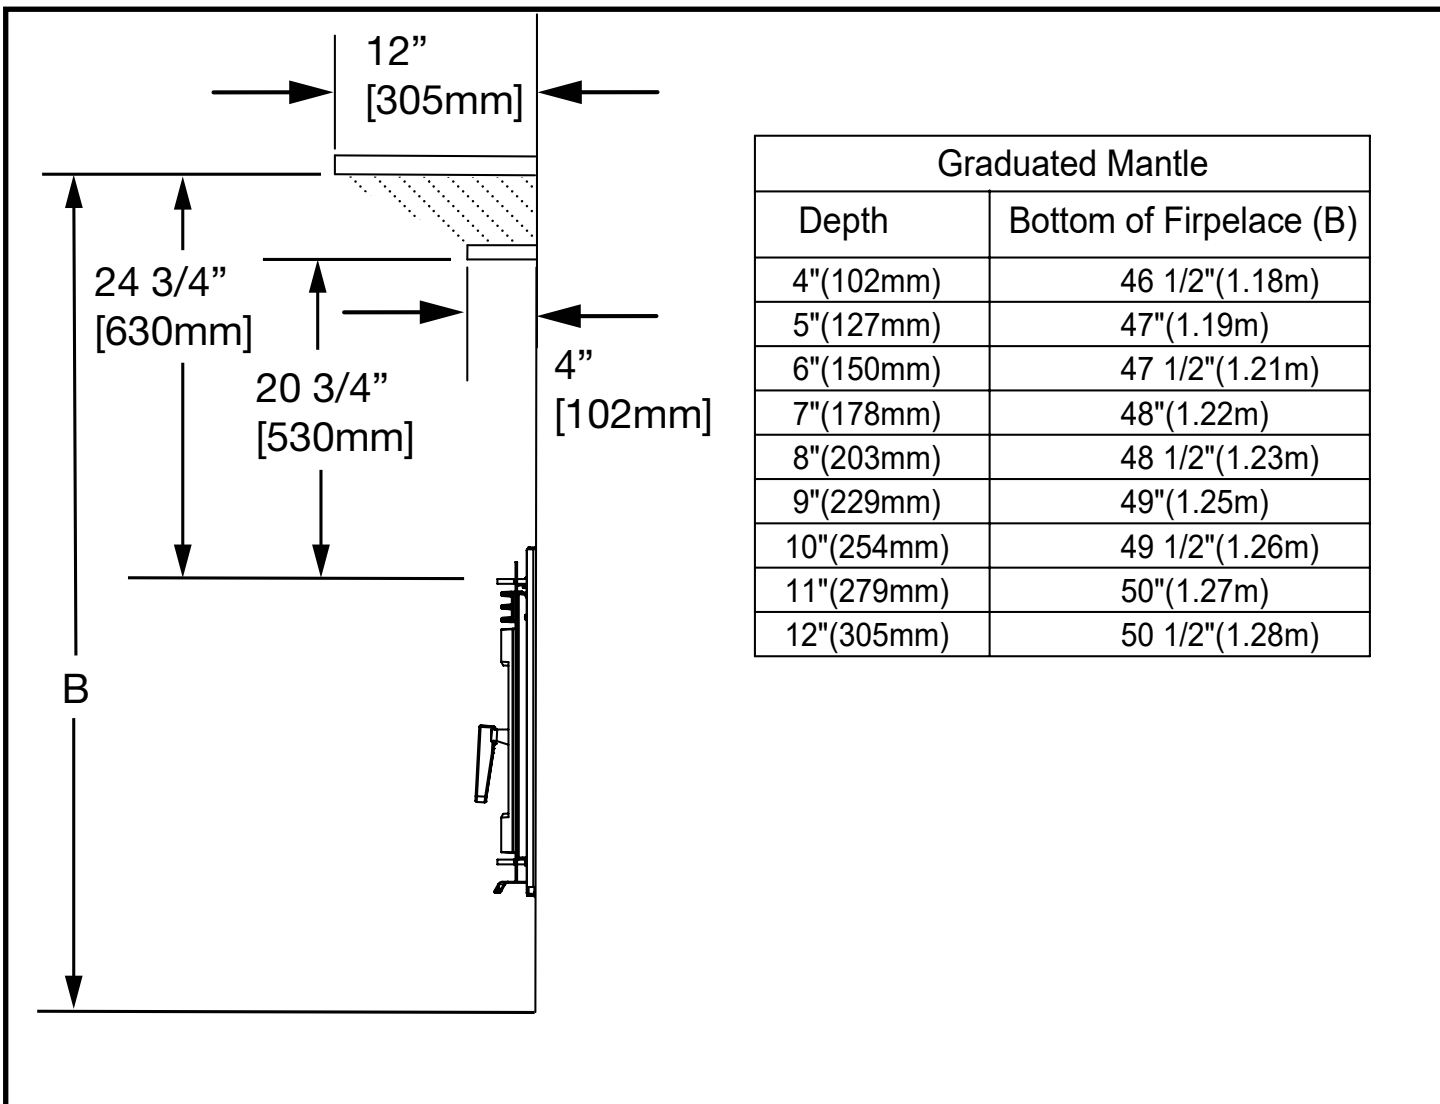

Figure 27: FP16 LE Mantle Clearance Chart.
- Above the Heat Exchanger's Air Deflector up to a minimum of "Figure 27: FP16 LE Mantle Clearance Chart." on page 28, depending on depth.